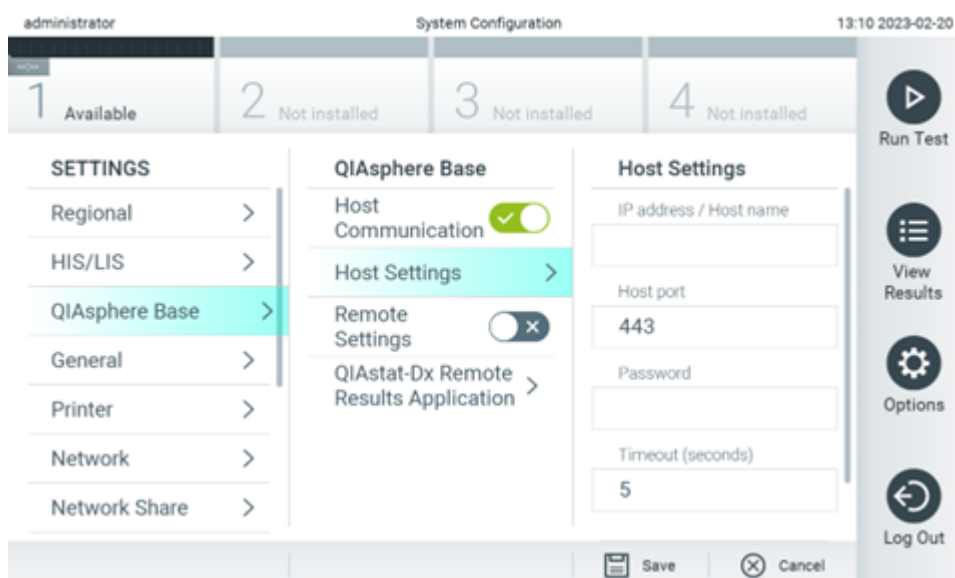

Figure 65. Configuring the QIASphere Base connection.
2. Select **QIASphere Base** from the **Settings** list in the left column (Figure 65).